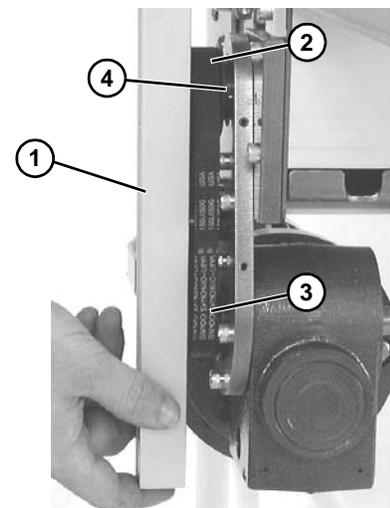

Figure 9
- Using a straight edge (**Figure 9, item 1**), align driven pulley (**Figure 9, item 2**) with drive pulley (**Figure 9, item 3**). Tighten driven pulley set screws (**Figure 9, item 4**).